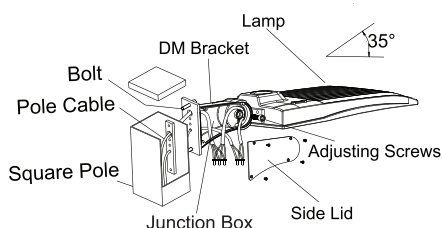

Figure 3
2.DIRECT MOUNTING (DM)
Step 1: Fix DM bracket to square pole with bolt, open the side lid of DM bracket, pull the wire into junction box, and connect the wire correctly. [Figure 3]
Notice: Adjustable angle is 0-35° (Figure 3).